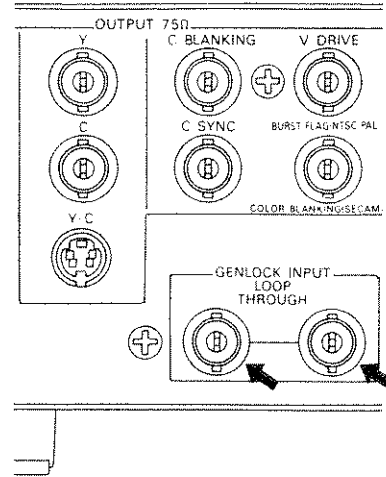

Figure 4.27
4.9 GENLOCK (See Figure 4.27 and 4.28)